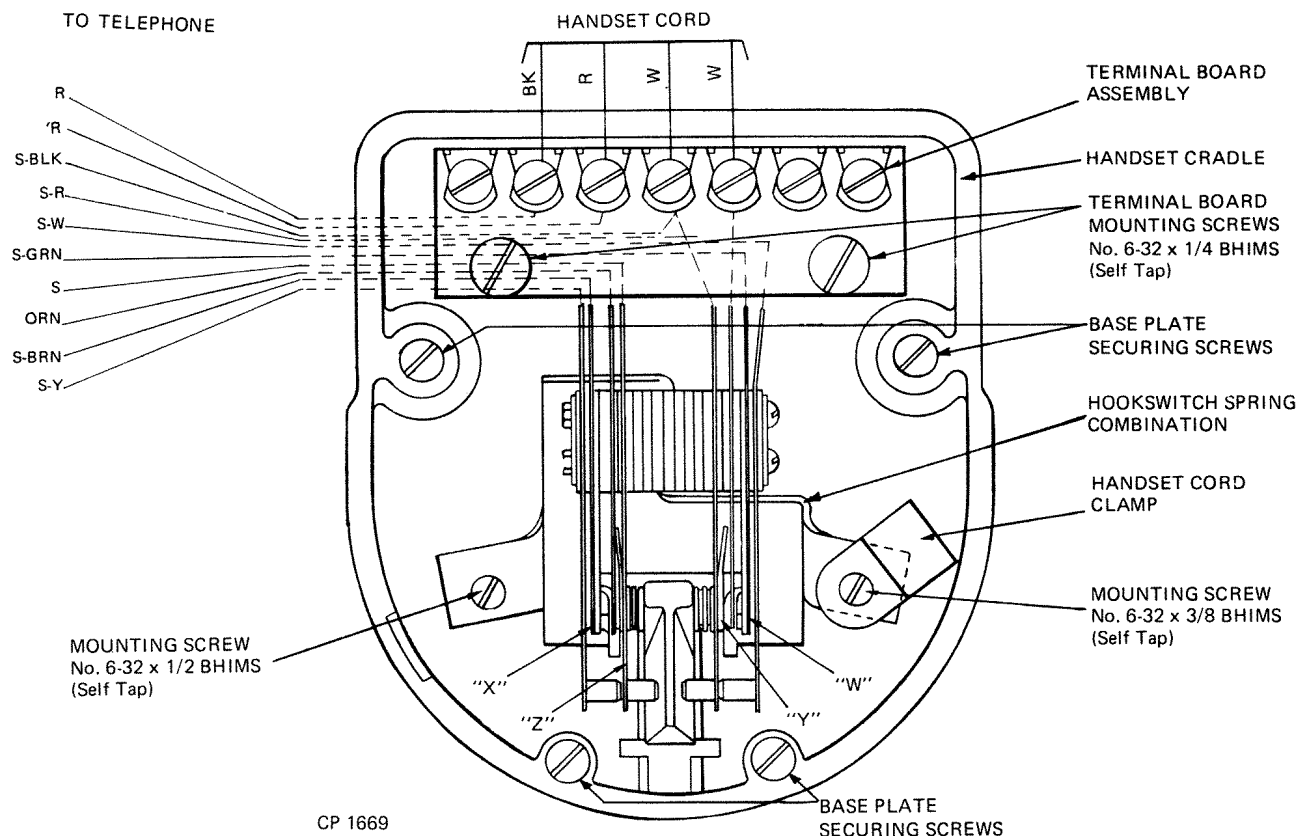

Figure 13. Handset Hookswitch Assembly and Wiring Diagram
3. Remove four screws holding hookswitch handset assembly to its base (fig. 13).
1. The hookswitch consists of four sets of twin contacts. Contact "W" closes before "X"; contact "X" closes before "Y" and "Z" open (fig. 13).
- d. Disconnect handset cord leads from handset hookswitch assembly terminals (fig. 13).